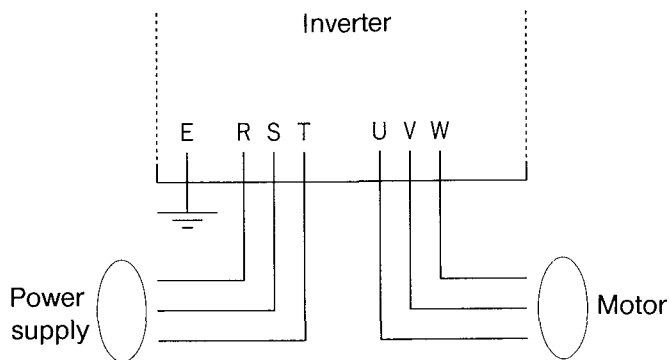

Fig. 7-1-1 Wiring connection diagram for inverter
- ① Check the wiring for errors.
In particular, check that inverter terminals U, V and W are not connected to the power supply, and also check that the ground terminal E(G) is connected to a secure ground. (Fig. 7-1-1)
- ② Make sure that there are no short circuits or accidental ground connections between the terminals or between uncovered charging sections.
- ③ Make sure that all screw and terminal connections are tight.
- ④ Make sure that the motor and the machine are separated.